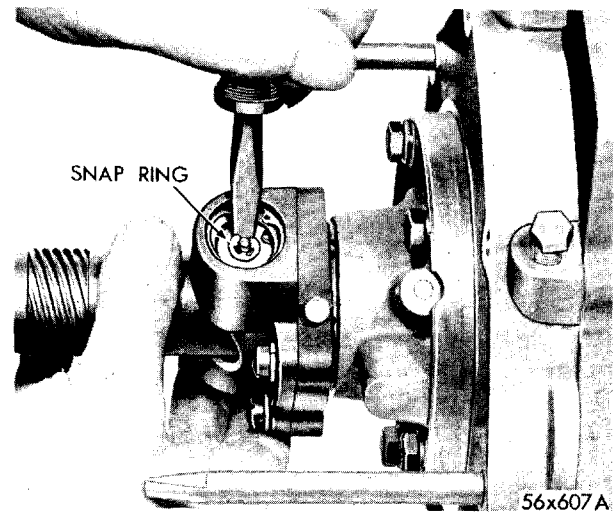

Fig. 36—Removal and Installation of Governor Valve Shaft Snap Ring
(1) Using a small screw driver, remove the governor valve shaft snap ring from the weight assembly end as shown in Figure 36.